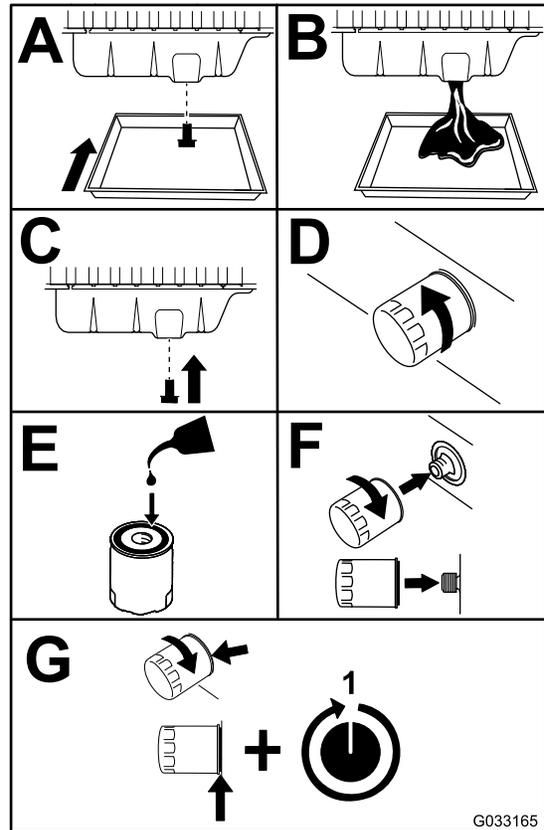

Figure 55
3. Replace the engine oil and filter (Figure 55).